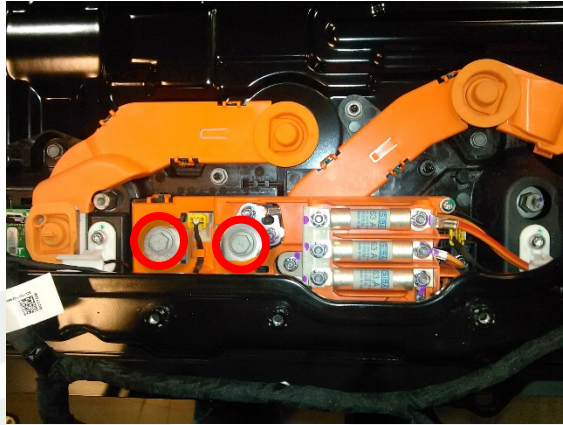

Figure 8
13. Remove and discard the bolts that attach the positive and negative busbars to the rear drive unit HV header (Figure 8).
14. Install new bolts to attach the positive and negative busbars to the rear drive unit HV header, and then mark the bolts with a paint pen after they are torqued (torque 5 Nm +60°) (Figure 8).